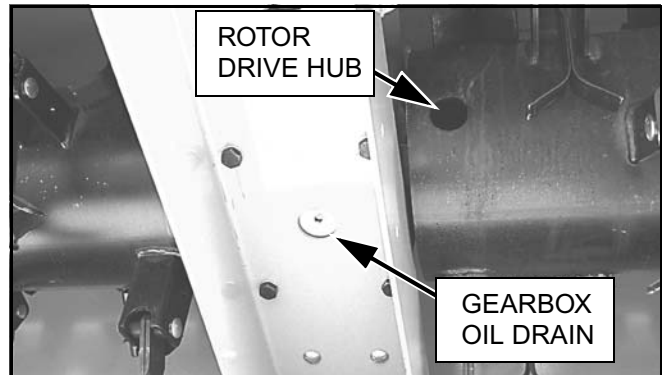

Figure 27. Gearbox Oil Drain Location
1. Change gearbox oil. Refill with SAE 85W90 gear oil. Capacity: 2-1/2 U.S. quarts (110 oz.). See Figure 27.